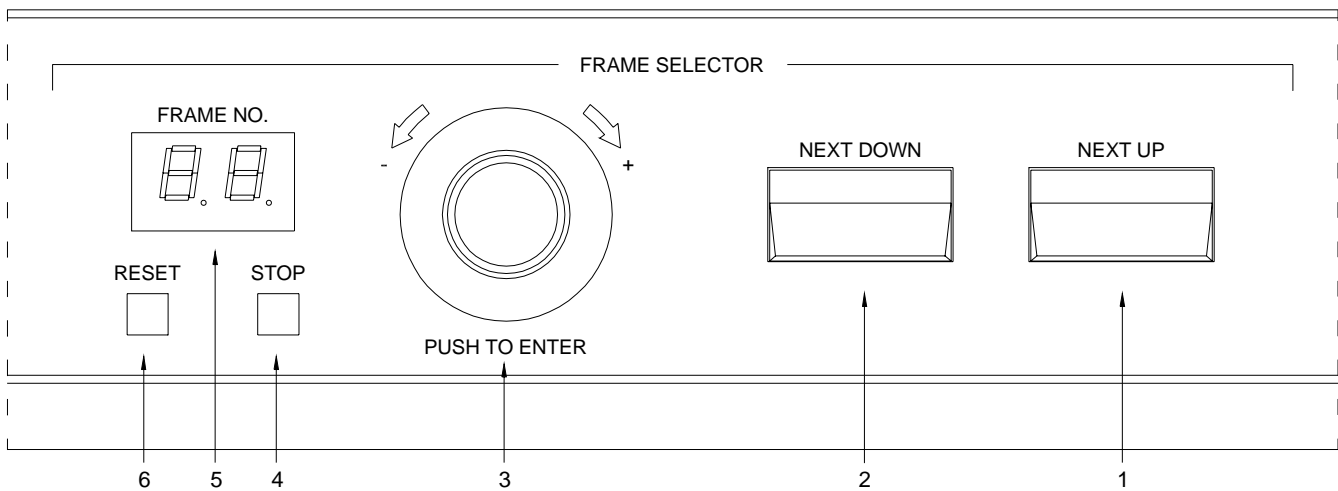

Figure 4-3-4. Frame Selector
This is the mode used when mammographic films are viewed. As shown in Figure 4-3-2 the Film Holder is in the middle of the viewing area. To switch between Mammo Mode and Full Size Mode, press and hold the Stop button (item 4 in Figure 4-3-4) for more than 2.5 seconds.
This is the mode used when full size films (14" x 14" or 14" x 17") are viewed. As shown in Figure 4-3-3 the Film Holder is at the top of the viewing area. To switch between Mammo Mode and Full Size Mode, press and hold the Stop button (item 4 in Figure 4-3-4) for more than 2.5 seconds.
The controls on the frame selector are shown in Figure 4-3-4.